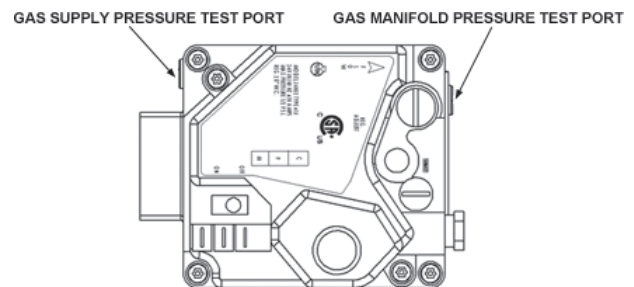

FIGURE 22. – TOP VIEW
4. Wait five (5) minutes for any residual gas to clear.
5. Open the Supply Gas Pressure Port on the gas control valve by turning the center screw counter-clockwise. Connect the manometer to the supply gas pressure test port, see Figure 22.